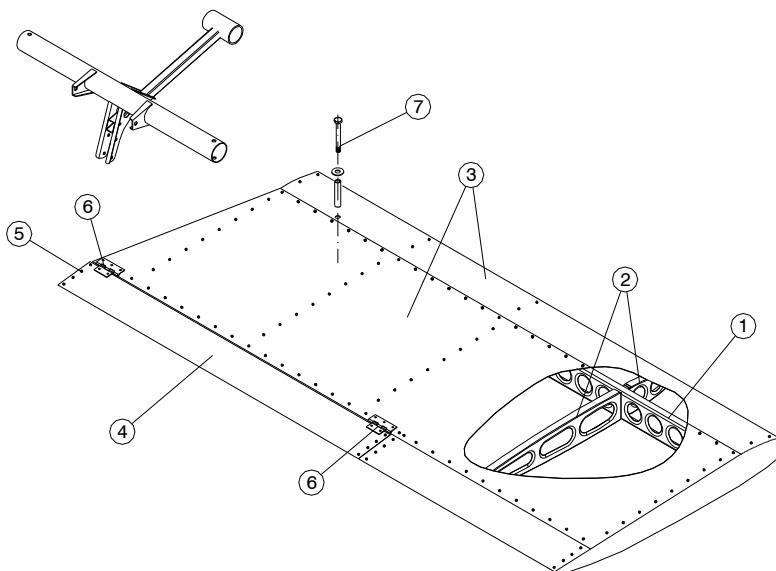

FIGURE C-6 STABILATOR
The stabilator structure (see fig.C-6) is made-up by an aluminium spar (1) to which a series of ribs (2) are riveted. It is covered by aluminium panels (3).